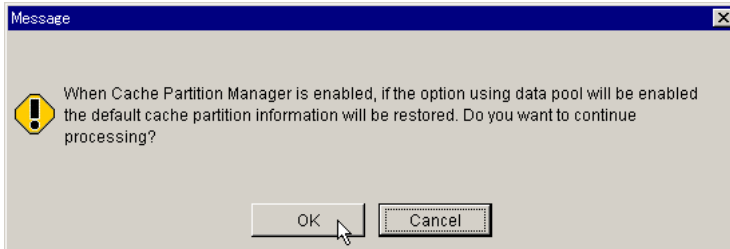

Figure 4.5 Cache Partition Manager Warning Message
8. If you have enabled Cache Partition Manager, the Cache Partition Manager warning message displays (see Figure 4.5). Audit Logging does not use the data pool, so this warning does not apply. Click **OK** to continue the installation.